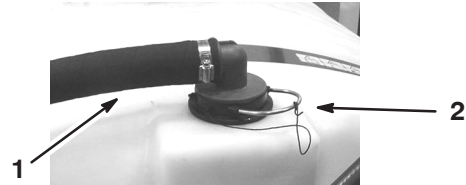

Figure 55
2. Remove the retainer from the red fitting attached to the large hose on the top of the tank (Fig. 55).
3. Disconnect the hose from the tank (Fig. 55).